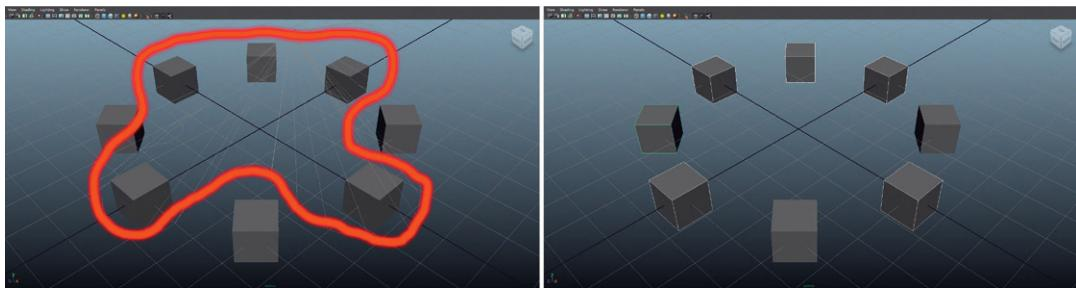

FIG 2.15 Highlighting with the Lasso Tool (red highlight added on left) and the resulting selected objects (on right).
Step 13: Activate the Lasso Tool and simply draw (by clicking and dragging) around a selection of cubes (Fig. 2.15). The results will be multiple objects selected (some highlighting white and one highlighting green).